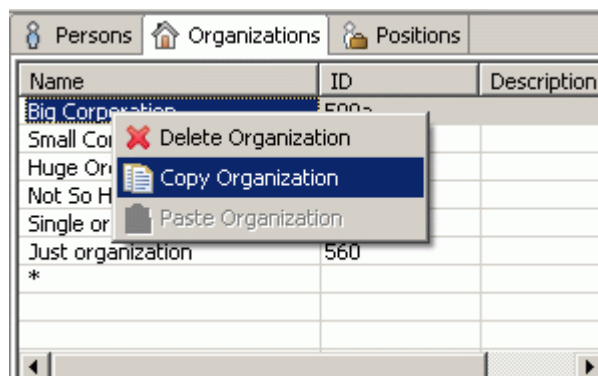

Figure 3. Context sensitive menu in Organizations panel, Copy Organization
- Right click on an applicable organization in the table list. A context sensitive menu appears (see Figure 3).